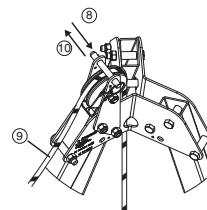

Fig. 10
8. Remove the ball pin located above the idler pulley at the top of the TRACPODE™ tripod (Fig.10, 8).
9. Run the rope of the DEROPE™ descender around the idler pulley (Fig.10, 9).
10. Fit the ball pin to prevent the rope from coming out of the idler pulley (Fig.10, 10).